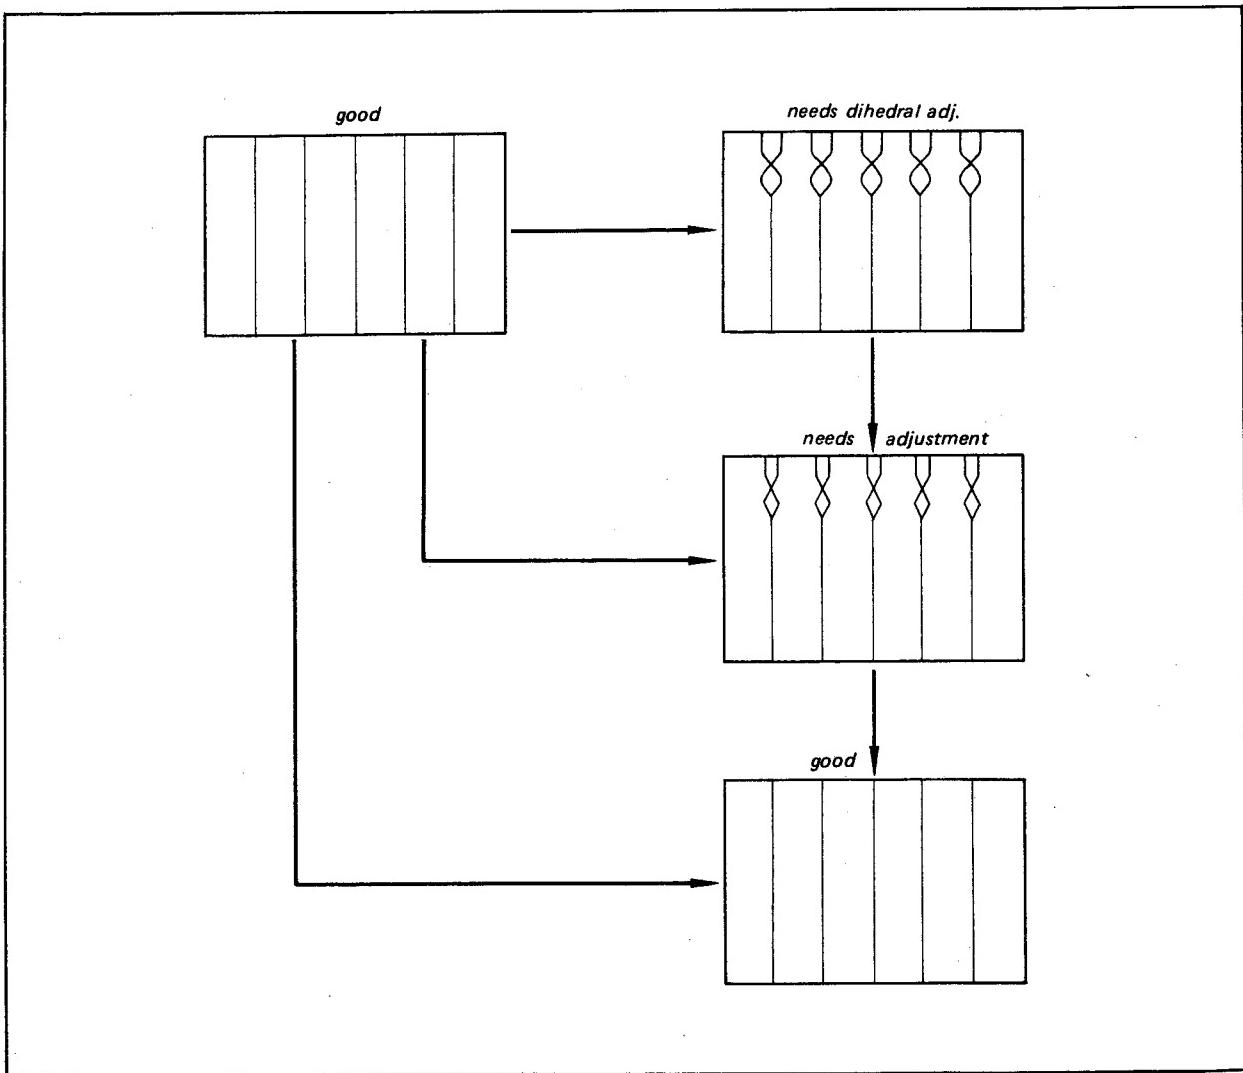

Fig. 7-10 Head dihedral adjustment
22. Observe the monitor screen, especially on the top edge, to see if there is any sync displacement as shown in Fig. 7-10. If this condition is observed on the top, proceed to Step 23.